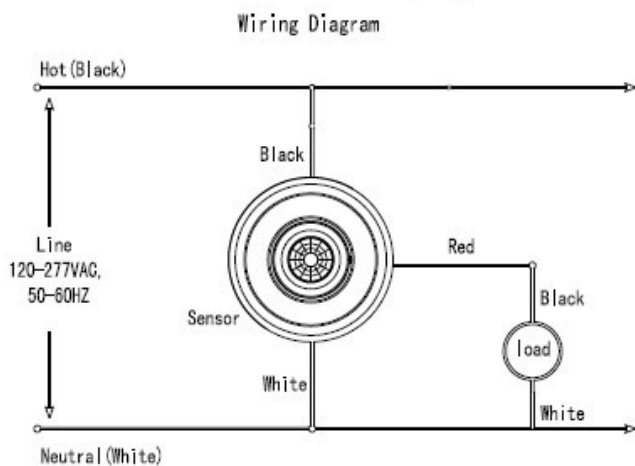

Fig2
4. Connect wires per appropriate WIRING DIAGRAM as follows: BLACK lead to LINE (HOT); RED lead to LOAD; WHITE lead to NEUTRAL. Twist strands of each lead tightly and, with circuit conditions, push firmly into the appropriate wire connector, screw connector on clockwise making sure that no bare wire shows below the connector. Secure each wire connector with electrical tape.(refer to Fig2)